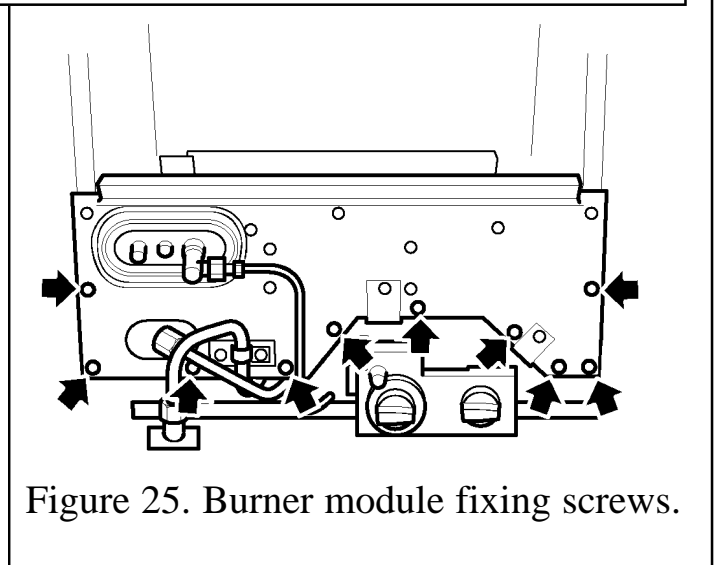

Figure 25. Burner module fixing screws.
- Detach the burner front cover by unscrewing the 10 screws at the front of the burner module shown in figure 25.